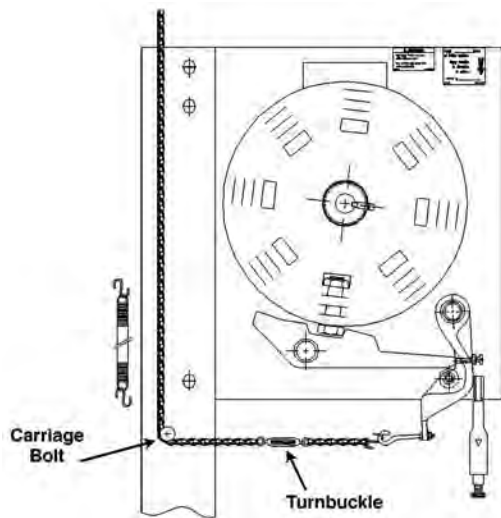

FIGURE 22-E
- Install door release assembly as shown in Figures 22-A, B, C, D or E as required.
- Locate pulleys as shown in Figures 22-A, C or D using wall anchor, eyebolt with nut and washer. Use lock nut and washer to hold each eyebolt in proper position.
- See Figure 22-E. Attach S-hook on end of 9" spring and install S-hook and spring on carriage bolt and close ends of S-hook. Install S-hook on other end of 9" spring and close S-hook onto spring end. Stretch the spring upward 3" and hook S-hook into sash chain above the carriage bolt. NOTE. During fire emergency or drop test, the 9" spring must pull slack in the sash chain to allow rotation of the tension release arms.
- After successful link/detector tests reset the release assembly as shown in Figures 22-A, B, C and D as required.
- Reset the fire door release chain assembly. Figure 22 a, b, c or d.